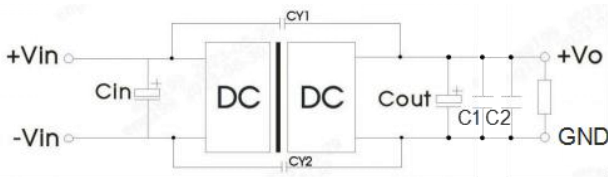

Fig.3
- ① The test method of ripple and noise adopts the measurement method, and the peripheral circuit is recommended to refer to Figure 3.